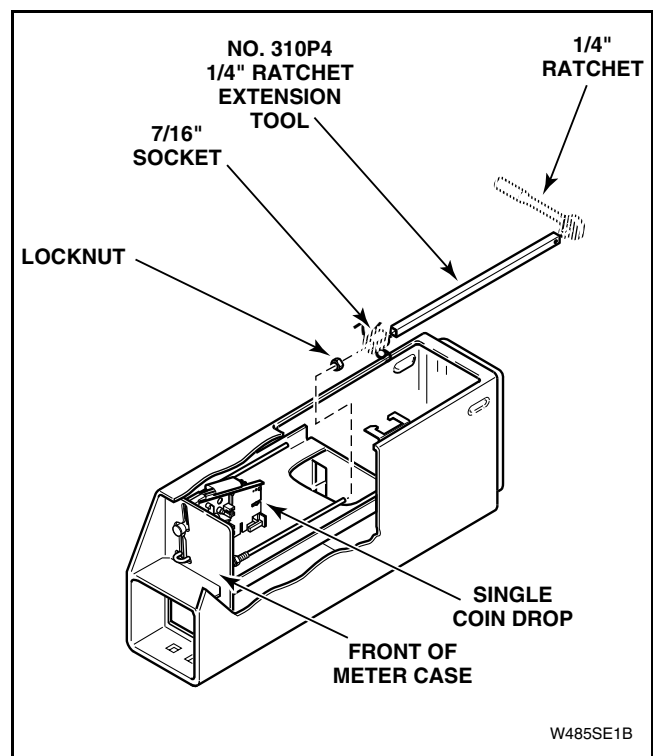

Figure 10
- (4) Use a 7/16 inch socket with No. 310P4 1/4 inch Ratchet Extension Tool and remove two locknuts holding coin drop to front of meter case. Refer to *Figure 10*.
- (5) Lift back end of coin drop and pull straight back until bottom edge of drop's front face plate falls behind the coin drawer housing.
- (6) Carefully lift complete coin drop straight up and out of meter case.